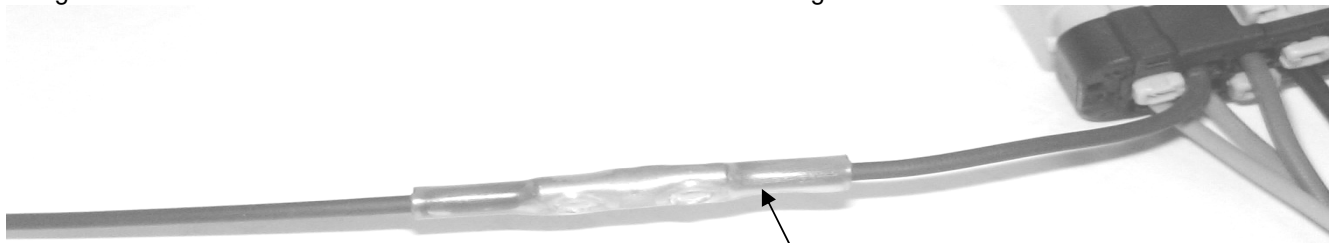

Figure 4
- Strip the cut end of the remaining brown wires to prepare them for the butt connector. Using the supplied butt connector 96112964 crimp the butt connector to the remaining brown wires to reconnect the wires (brown wire still connected to 14 pin connector and brown wire with ring terminal attached). Use a heat gun to activate the heat shrink tube of the butt connector. See figure 4.